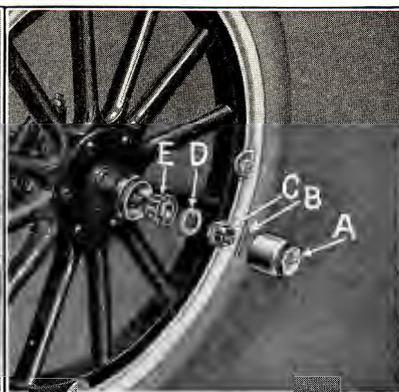

Fig. 58
- (b) Unscrew hub caps (See "A" Fig. 58).
- (c) Screw on adjusting cone (See "E" Fig. 58). Run down cone sufficiently far to permit wheel turning freely yet have no play between bearing cup and cone bearing.